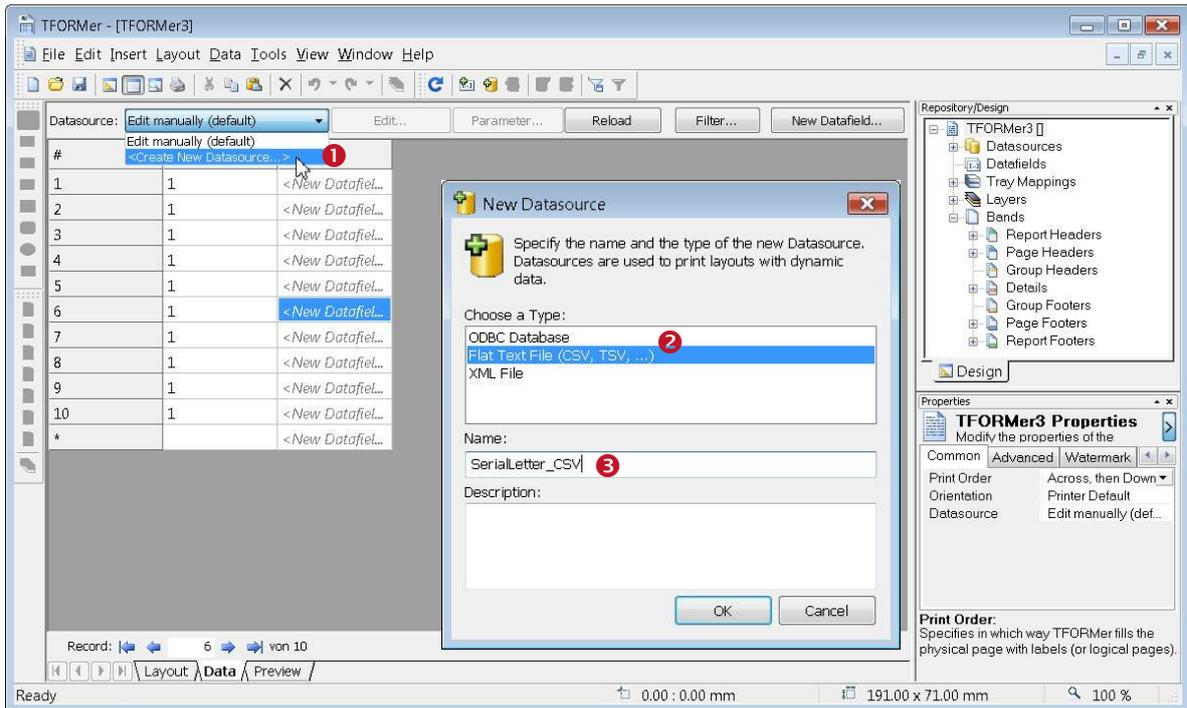

Figure 11: Create a new Datasource
To create a new datasource switch to the *Data* tab and select *<Create New Datasource...>* from the drop down menu (see ❶ in Figure 11 unterhalb). Alternatively you can right-click on the "Datasources" entry in the design tree and select *New Datasource...* from the pop-up menu or click on the "New Datasource" icon  in the data toolbar. The *New Datasource* dialog will appear: